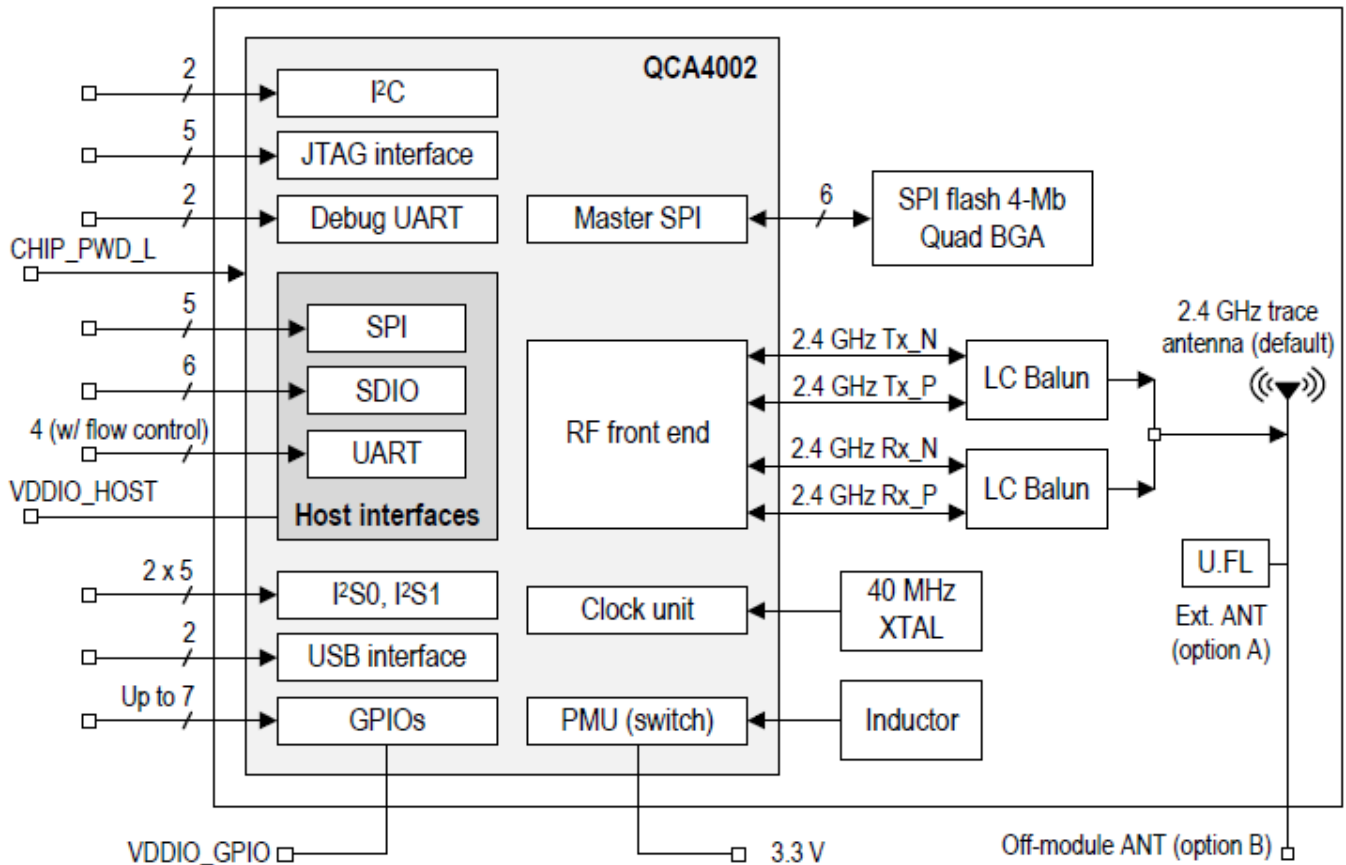

Fig. 1: Block Diagram
- Inside the module, there is a QCA4002 main chip which control the WLAN RF and BB function, also embedded a small processor which can do the encryption and TCP/IP off load. Only few external components are necessary such as XTAL and Flash. Block Diagram as Fig. 1: